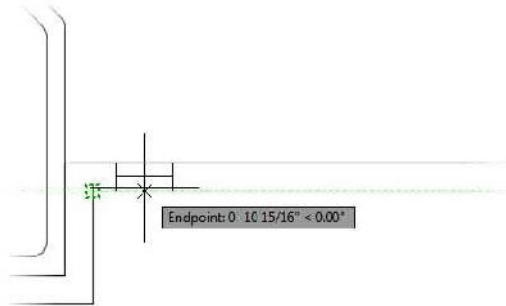

FIGURE 7.39: Selecting the first point to define the insertion point
3. Place the cursor over the intersection of the outside wall lines on the upper-right side of the pop-out, as shown in Figure 7.39.